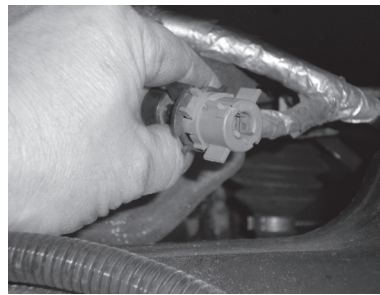

FIG. 1
3. (FIG. 1) Disconnect the electrical connector from the top or stem end, by rotating the grey portion counter clockwise of the black portion. This unlocks the connector from the stem and will be able to pull straight upward to remove.